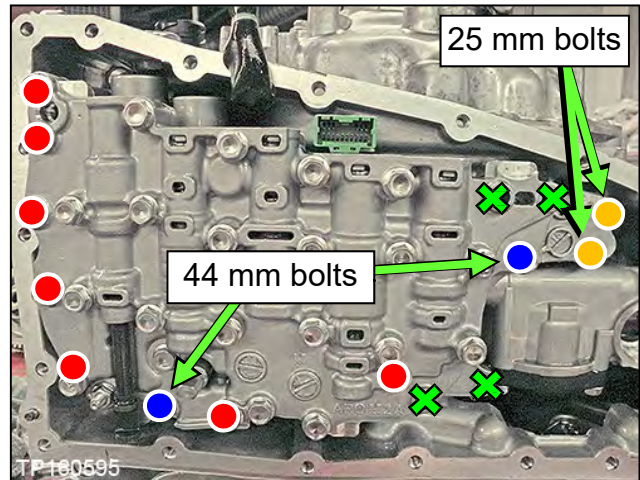

Figure 175
144. Install the Control Valve with eleven (11) mounting bolts (Figure 175).